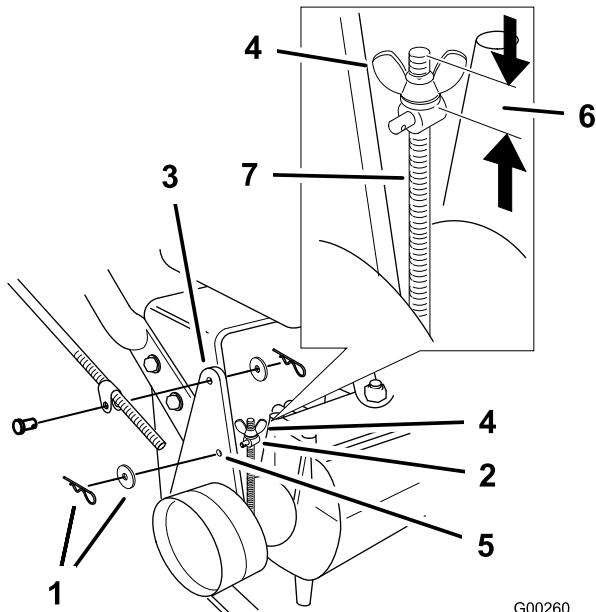

Figure 43
Note: For the initial adjustment, adjust the wing nut until it is 1-1/4 inches from the top of the rod (Figure 43).
5. To adjust the brake, remove the hair pin cotter and washer from the brake lever and trunnion (Figure 43).
8. Install the trunnion into hole F (Figure 43). Tighten the wing nut.
9. Secure trunnion to brake lever with washer and hair pin cotter (Figure 43).